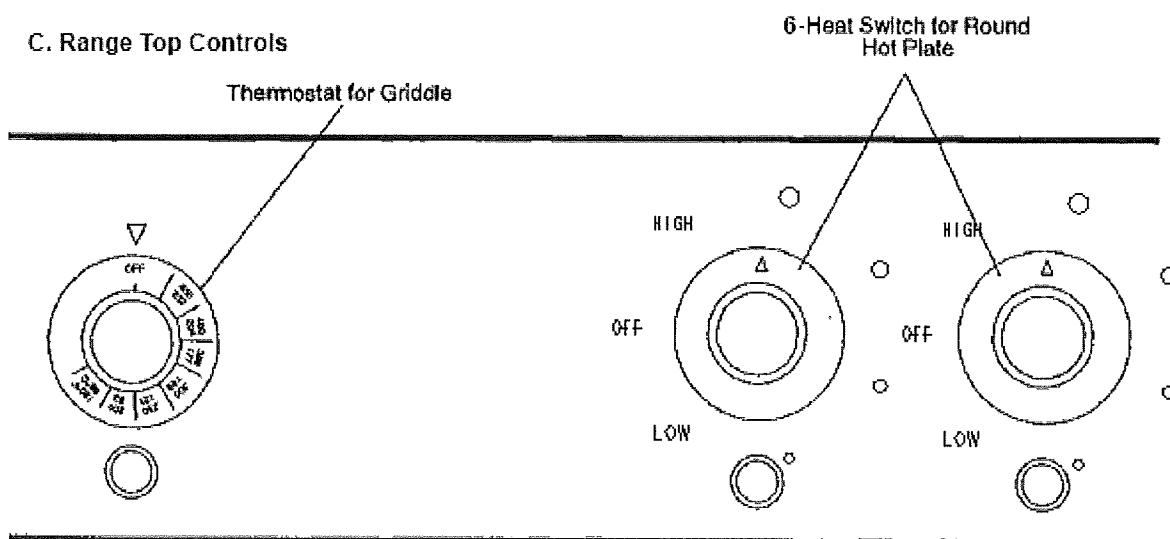

Figure 3-4
1. Griddle is controlled by a Temperature Thermostat Control (see Figure 3-4) adjustable from 150°F to 450°F(65°C to 232°C). The griddle will preheat to 400°F(204°C) in 12 minutes. Adjacent green light remains on while heating elements are energized and griddle is coming up to set temperature.